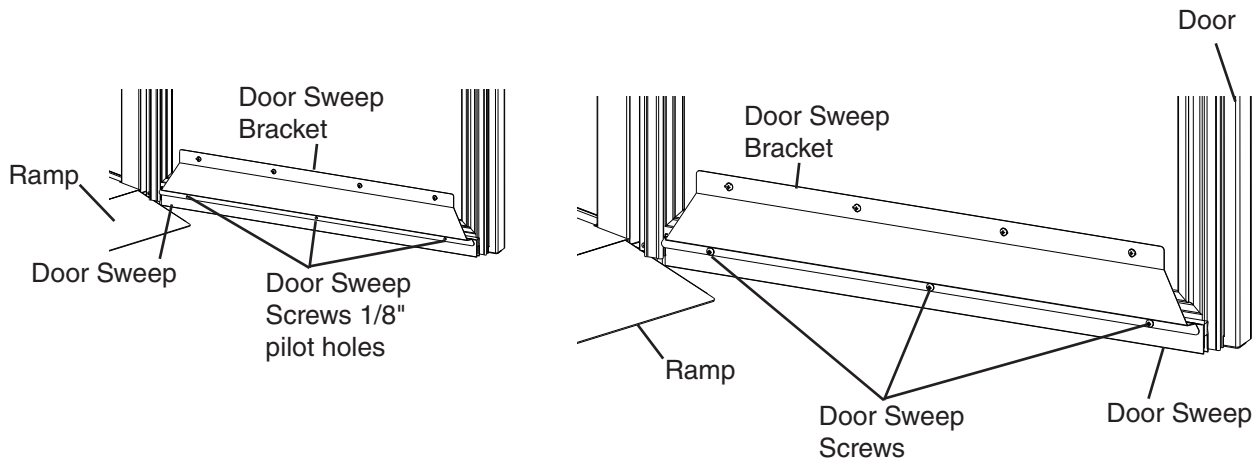

Fig. 14
6) Drill three 1/8" pilot holes in the positions shown in Fig. 14. Use the 3 screws provided in the accessory bag to secure the door sweep to the door sweep bracket and the door.